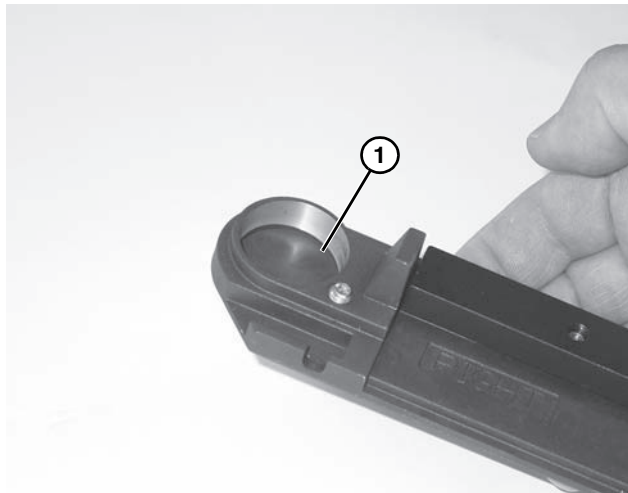

Figure 42
1. Inspect the head plates bearing seating surface (**Figure 42, item 1**). If they are worn or damaged, replace. See “Service Parts” on page 24.